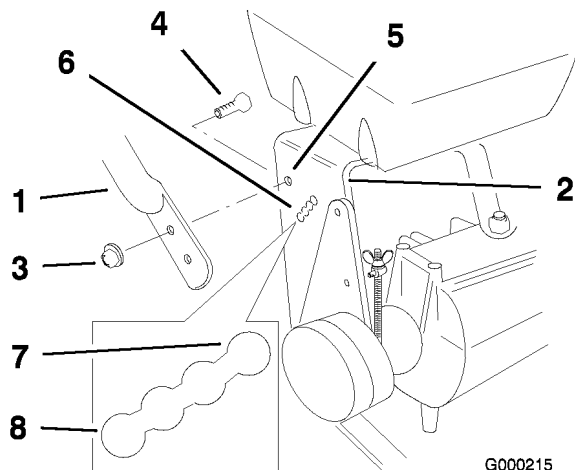

Figure 28
2. Loosen the upper flange bolts (3/8 x 1 inch) and flange nut securing handle to rear frame (Figure 28).